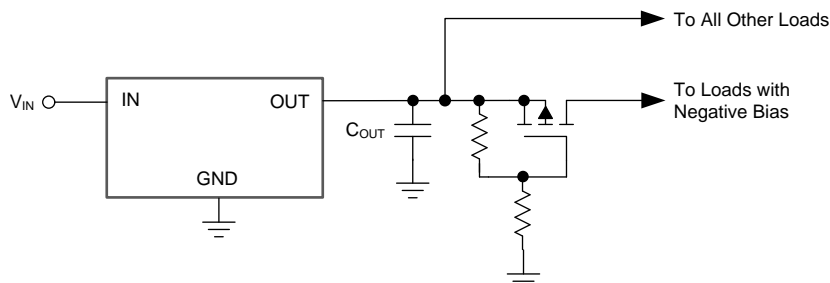

图 50. PFET to Isolate the Output from the Load
- Use a PFET to isolate the output of the device from the load causing the negative bias when the device is off, as shown in 图 50.